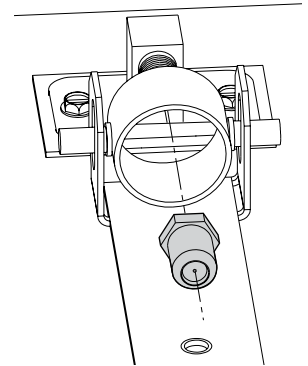

Figure 30. Replace the Burner injector.
9. Change the Burner Injector. See fig. 30. Using a 1/2" open end wrench or deep-well socket remove the burner orifice from its brass elbow housing and replace with the appropriate orifice supplied in the kit.